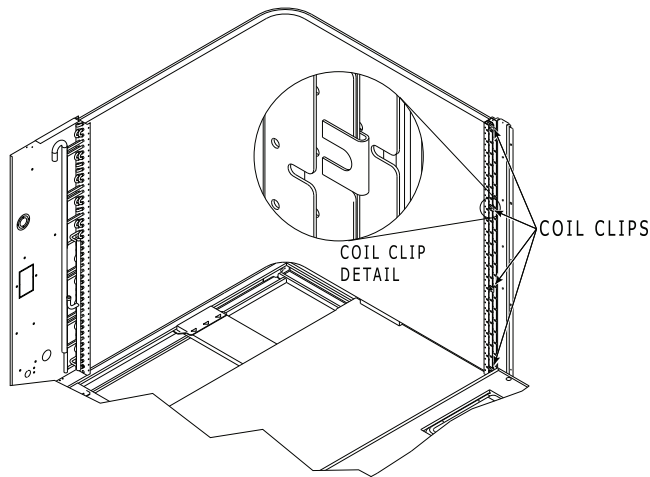

Fig. 20 — Condenser Coil Clips
5. Remove the screws from both sides of the 4 coil retaining clips on the hairpin end of the coil tube sheets. See Fig. 20.